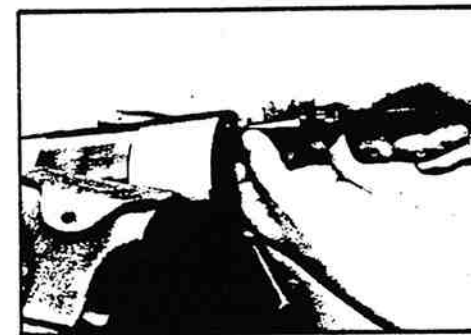

Figure 11-61. Installing Poppet Seat.
6. If the poppets were removed, then install into the rack piston (10) one poppet seat (14), one poppet (13), the spring (11), the nylon spacer rod (12), the other poppet (13), and the other poppet seat (14). Tighten both poppet seats to 20-25 ft. lbs. (27.1-33.8 Nm) torque. Install both retaining rings (30) (figures 11-61, 11-62, 11-63).